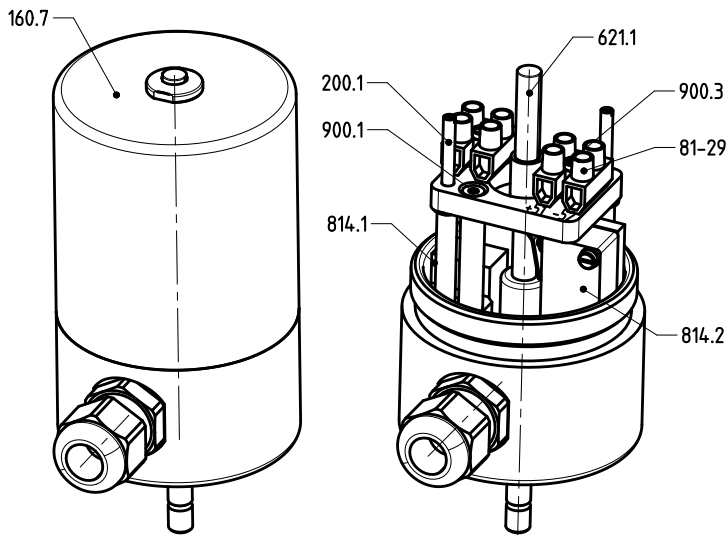

Figure 15: Design of actual-position feedback unit
1. Unscrew and remove the cover [160.7] (Fig. 15).
2. Unscrew and remove the cover [160.7] (Fig. 15).
4. Unscrew and remove the cover [160.7] (Fig. 15, Section 8.3).
10. Screw the terminals [81-29] back on (Fig. 15, Section 8.3).